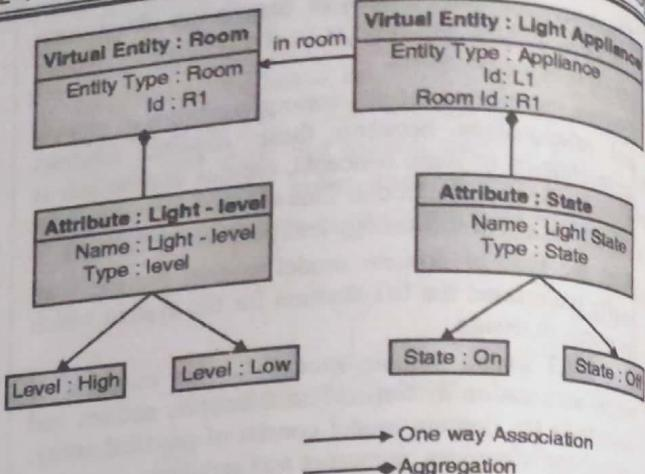

Fig. 2.2.4 : Information model of IOT based home automation system
- In our example of home automation system there are two virtual entities. One is virtual entity for light appliance which has attribute light state. Another virtual entity is room which has attribute light level. Information model is shown in Fig. 2.2.4.